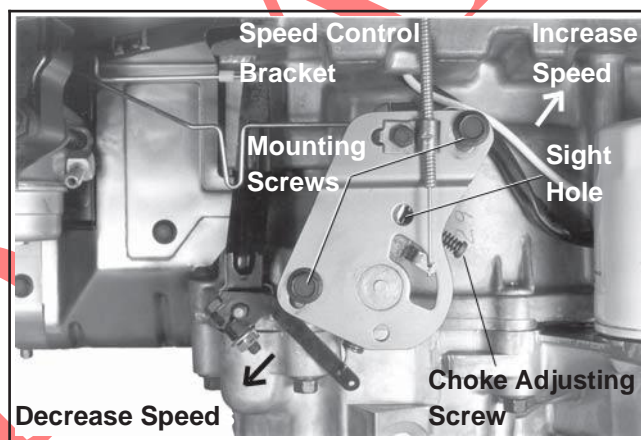

Figure 5-22. Adjusting High Idle Speed.
4. Loosen the speed control bracket mounting screws. Move the bracket up or down until the desired high idle speed is reached. See Figure 5-22. Check the speed with a tachometer.